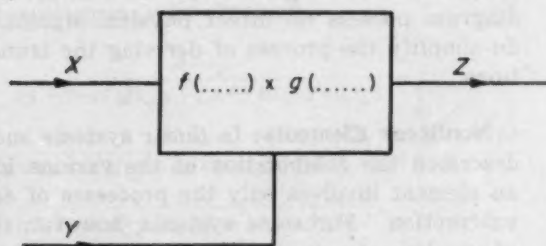

Fig. 3 — Nonlinear element for which the output may involve the multiplication or division of two input quantities
**Nonlinear Elements:** In linear systems such as that described the combination of the various inputs into an element involves only the processes of addition or subtraction. For some systems, however, the output of an element may involve the multiplication or division of two or more input quantities. For example, the output  $Z$  of the element shown in Fig. 3 may be given by an expression of the form